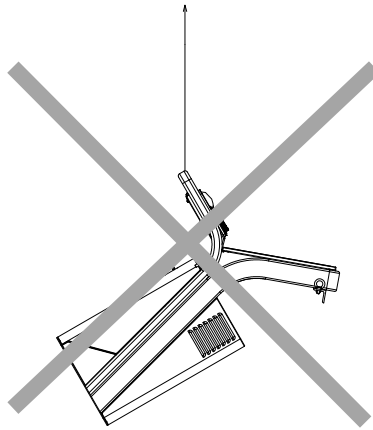

Fig 3-18 Improper way to hoist
- When hoisting the scanner by a crane, do not hoist it by attaching a belt or a rope only to the handrail of display unit.(See **Fig 3-18 Improper way to hoist**)